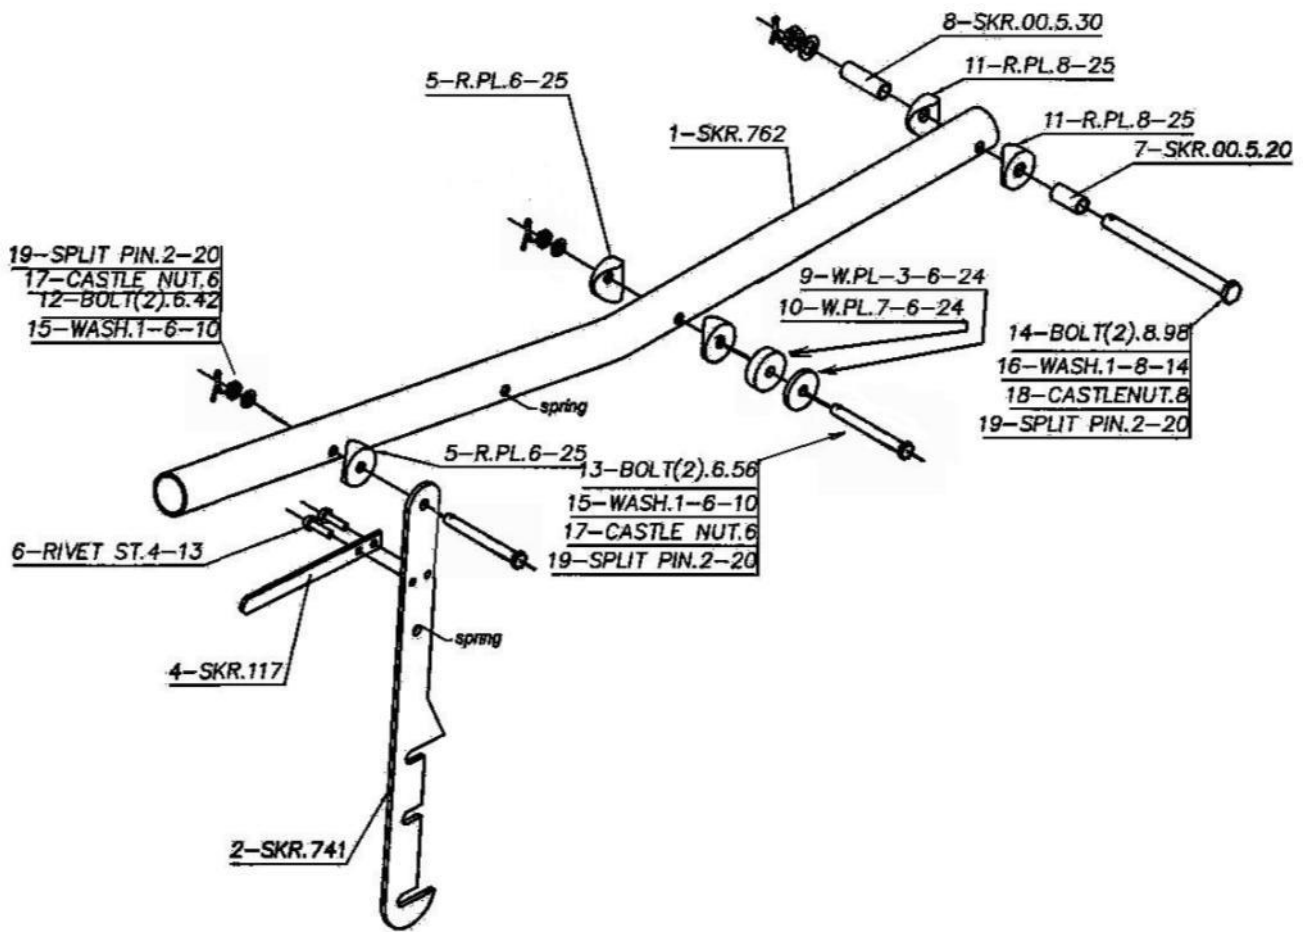

Figure 75 Flap handle – note LS version has an oversleeve in the middle
- a) Place an inner tube inside a tyre, Figure 75.
- b) If not already done, drill an 8mm diameter hole in each undercarriage leg 18mm above the upper rear stub axle mounting holes, as shown in Figure 75.